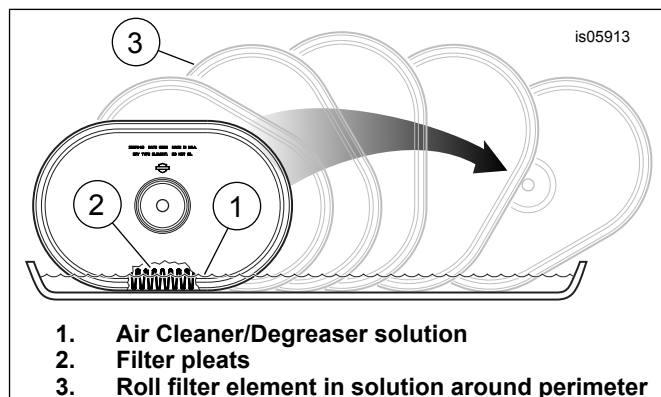

Figure 2. Cleaning the Filter Element
2. Clean the filter element (see Figure 2):
- a. Remove and wash the element by immersing it, on edge, in a shallow pan containing enough Air Cleaner/Degreaser (1) to cover **no more than three-quarters of the depth of the filter pleats (2)**, about 9.5 mm (0.375 in). **Do not allow dirty solution to get inside the element.** Carefully "roll" the element in the solution around its perimeter (3) until the entire outer surface of the filter pleats has been soaked.